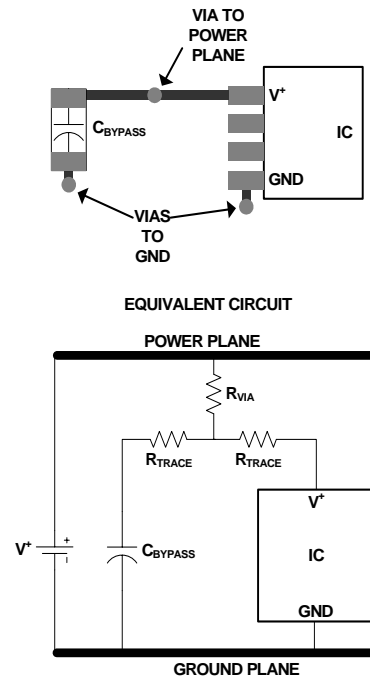
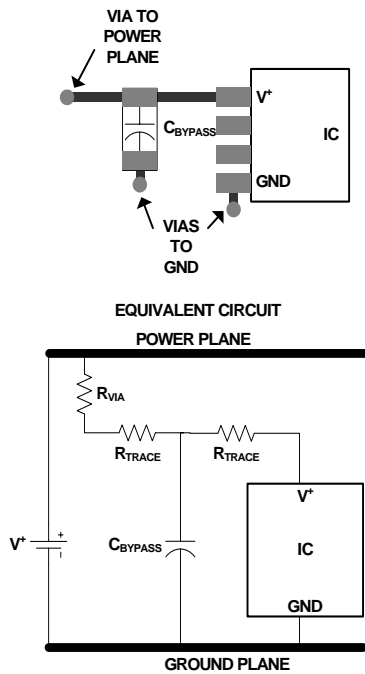

FIGURE 12. SUB-OPTIMAL BYPASS CAPACITOR LAYOUT
FIGURE 13. OPTIMAL ("T") BYPASS CAPACITOR LAYOUT
- Ideally each supply should be bypassed to ground with a 0.1μF capacitor. Minimize trace length and vias to minimize inductance and maximize noise rejection. Figure 12 demonstrates a common but non-ideal PCB layout and its equivalent circuit. The additional trace resistance between the bypass capacitor and the power supply/IC reduces its effectiveness. Figure 13 demonstrates a better layout. In this case there is still series trace resistance (it is impossible to completely eliminate it), but now it is being put to good use, as part of a "T" filter, attenuating supply noise before it gets to the IC, and reducing the amount of IC-generated noise that gets injected into the supply. Follow the good supply bypassing rules shown in Figure 13 to the extent possible.